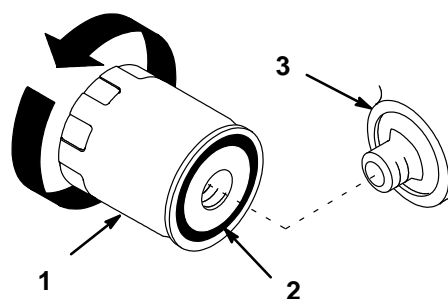

Figure 17
2. Remove the old filter and wipe the filter adapter (Fig. 17) gasket surface.
4. Apply a thin coat of new oil to the rubber gasket on the replacement filter (Fig. 17).
5. Install the replacement oil filter to the filter adapter. Turn the oil filter clockwise until the rubber gasket contacts the filter adapter, then tighten the filter an additional 1/2 turn (Fig. 17).